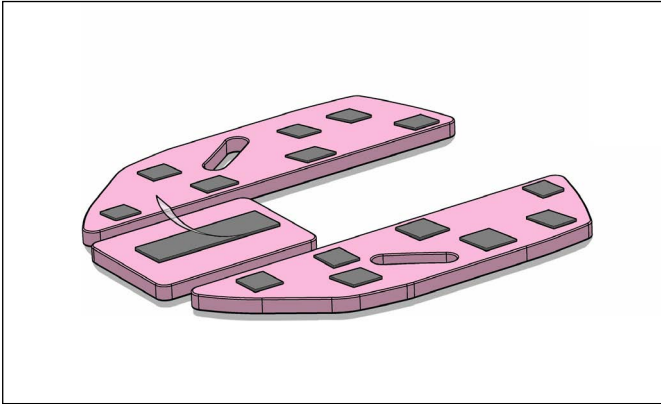

Fig. 5
1. Remove the protective film on the underside of the pad to expose the adhesive backing of the hook and loop squares. (Fig. 5)